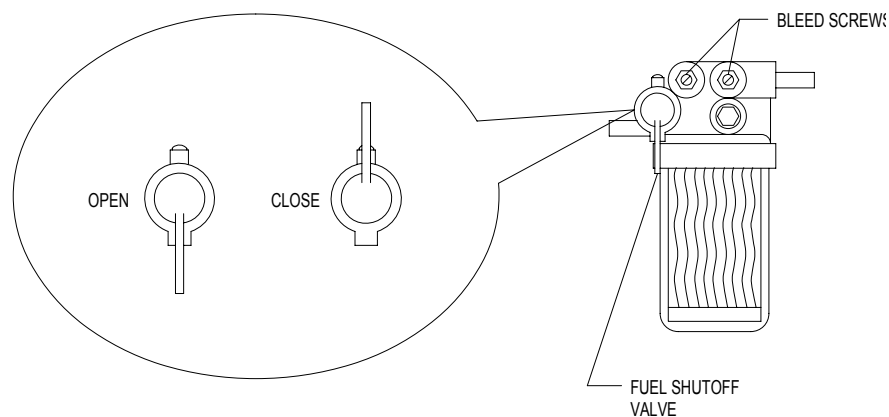

Figure 2-4. Fuel Filter Bleed Screws
Under normal conditions, the fuel system does not require priming. Certain conditions may allow air into the fuel system, for example, running out of fuel. Once this occurs, the air must be bled before the engine will start or run smoothly. Using Figure 2-4, proceed as follows:
- (1) Check that fuel tank has fuel and that fuel shutoff valve (Figure 2-4) located on the filter is positioned to ↓O (open).
- (2) Open two bleed screws (Figure 2-4) at top of filter in the order listed below.
- (3) When fuel flows freely and evenly out of bleed screws (without air bubbles), tighten both bleed screws.
- (4) Loosen output fuel line fitting at fuel injection pump, place engine RUN lever to RUN position, depress and hold decompression lever, and pull recoil starter rope until fuel flows from around fuel line fitting (without air bubbles). Tighten output fuel line.